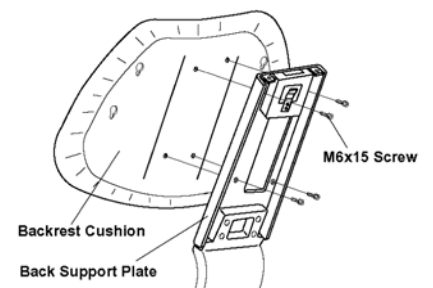

Fig.3-6 Fixing Backrest Cushion
- (9) Fixez le dossier au support arrière (Fig 3-6)